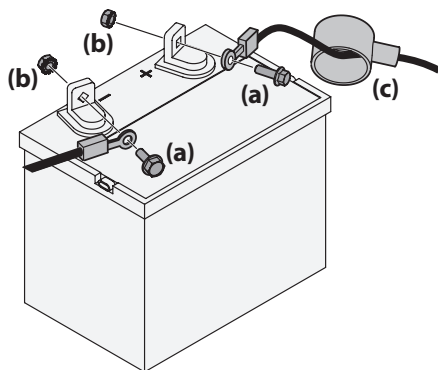

Figure 2-12
3. Remove the plastic cover, if present, from the positive battery terminal and attach the red cable to the positive battery terminal (+) with the bolt (a) and hex nut (b). See Figure 2-12.
4. Remove the plastic cover, if present, from the negative battery terminal and attach the black cable to the negative battery terminal (-) with the bolt (a) and hex nut (b). See Figure 2-12.